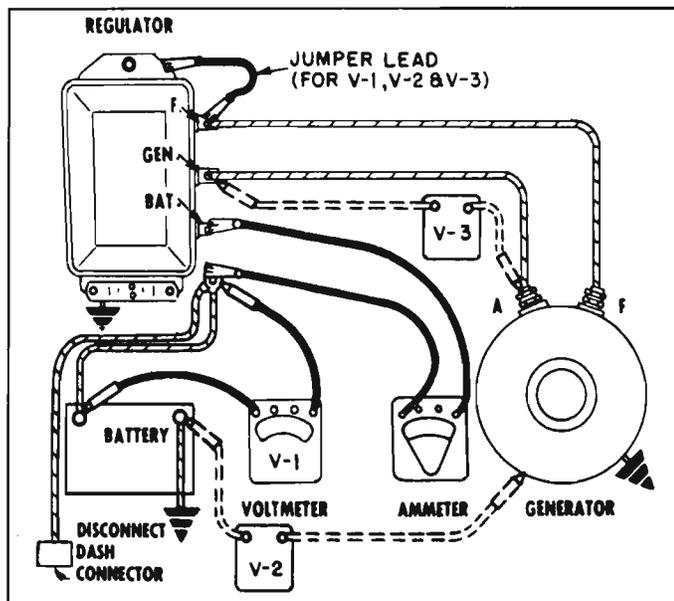

Fig. 8-5—Checking Generator Circuit Resistances
Excessive voltage drop (resistance) in the charging circuit tends to keep the battery in an undercharged condition. To check for excessive voltage drop (resulting from loose connections or other high resistance) in the generating circuit, make connections as shown in Figure 8-5 and proceed as follows:
3. Measure the voltage drop at V-1, V-2 and V-3 as shown in Figure 8-5. Readings V-1 plus V-2 should not exceed 0.5 volt. Reading V-3 should not exceed .03 volt. If the voltage drop exceeds these limits, excessive resistance is indicated in the circuit checked.